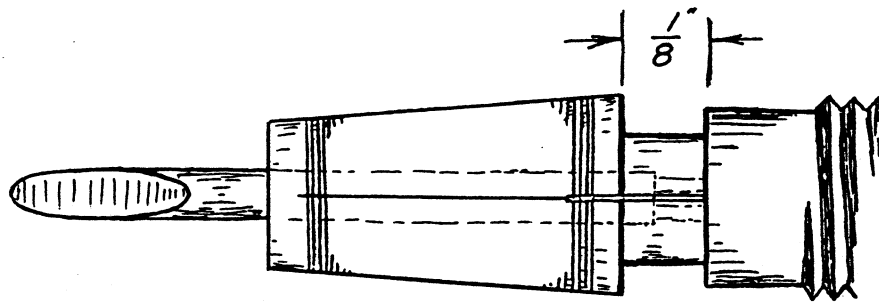

Fig. 63
- Step 1. Assemble collector (with feed) up to within approximately 1/8" of the nipple. See Figure 63.